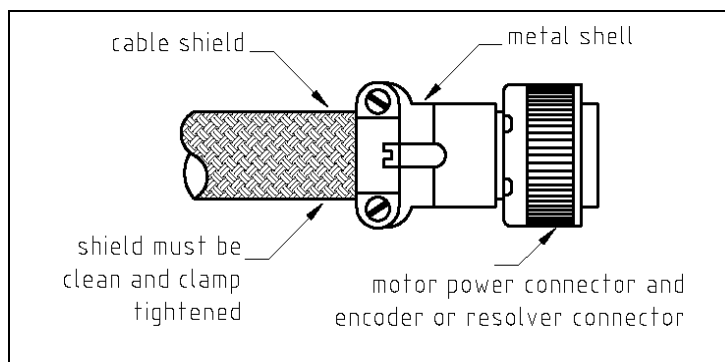

Fig. 3.1 – Grounding of shield to connectors at motor side
- Signal** - Encoder cable (see Fig. 3.1)
- Resolver cable (see Fig. 3.1)